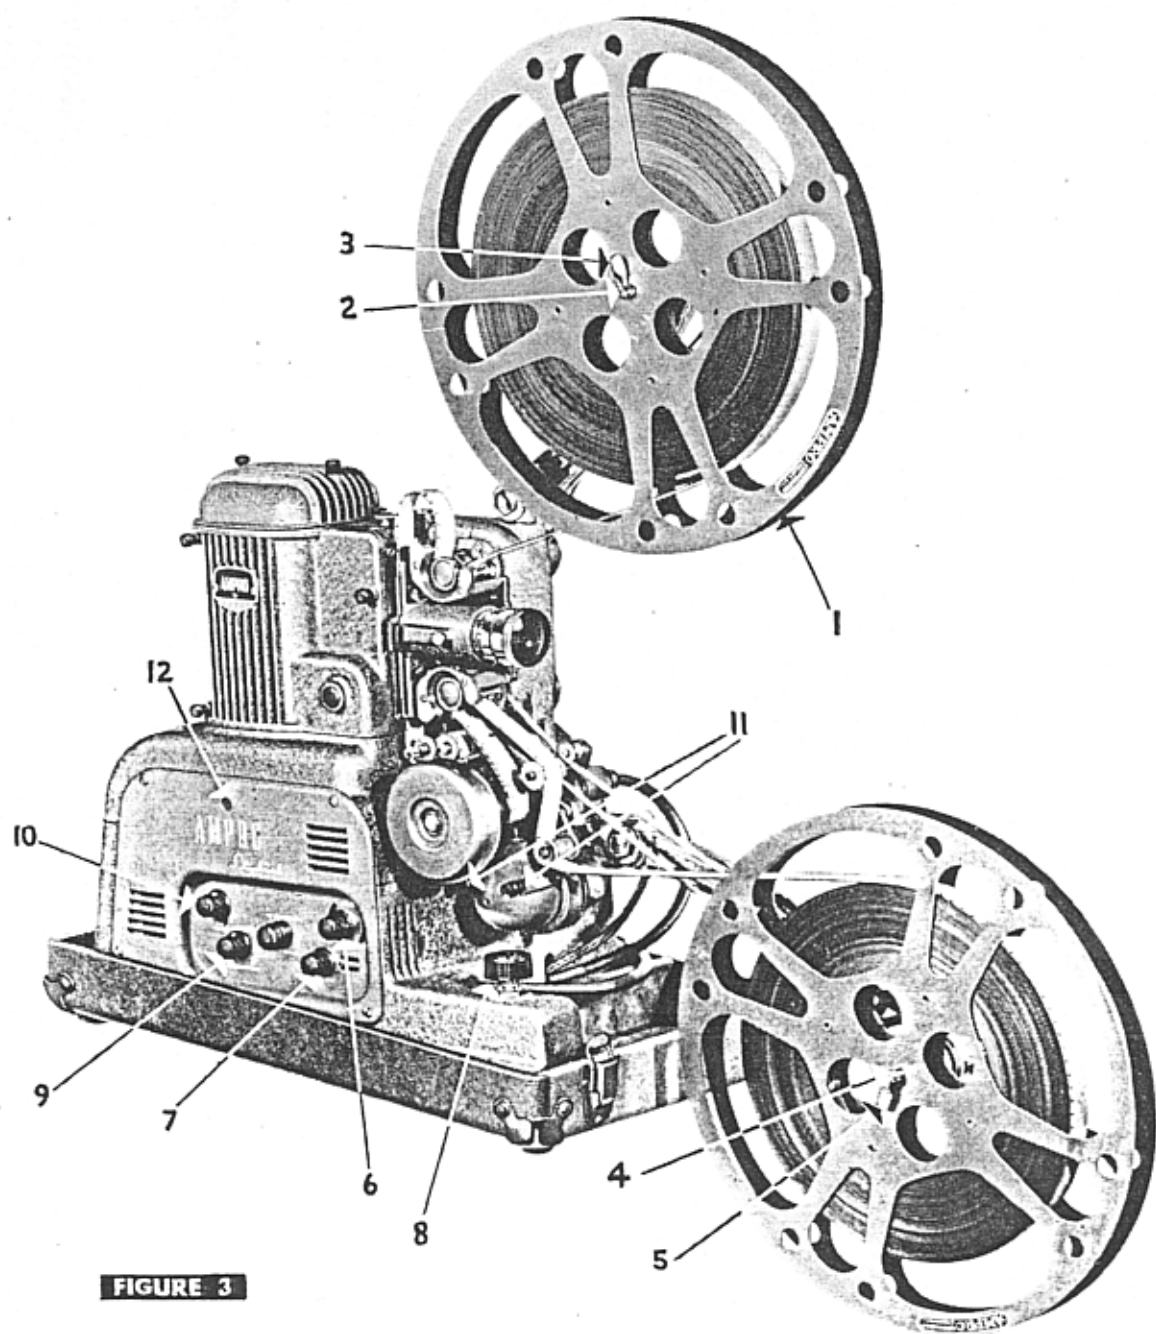

FIGURE 3
1. Place the reel of film which is to be projected (1 Fig. 3) on the feed spindle (2 Fig. 3) and fold over the reel lock finger (3 Fig. 3).
2. Place an empty reel of suitable capacity on the takeup spindle (4 Fig. 3) and fold over the reel lock finger (5 Fig. 3).
1. Turn the speed control knob (6 Fig. 3) as far as it will go in the direction marked "Sound."
2. Turn the motor control knob (7 Fig. 3) to the position marked "Motor." If the film feeds through the projector properly turn the knob to the position marked "Lamp," if not, turn the knob back to the "Off" position and re-check the threading.
5. If the picture is too high or too low, rotate the tilt knob (8 Fig. 3) to position it on the screen.
6. If silent film is being projected, turn the speed control knob (6 Fig. 3) toward the "Silent" position until proper rate of screen action is obtained.
7. If sound film is being projected turn the Volume Control (9 Fig. 3) clockwise until the proper volume level is established, then adjust the "Tone Control" (10 Fig. 3) to obtain satisfactory reproduction of sound.
8. When "The End" trailer appears on the screen turn the motor control switch (7 Fig. 3) to the "Motor" position and turn down the volume. When all of the film has passed through the projector turn the control switch to the "Off" position.
2. Turn the control switch (7 Fig. 3) to the "Motor" position.
- a. **Projection Lamp**—Remove the two cover screws (6) and lift off the lamp house top (7). Press downward on the lamp and turn it 90 degrees counterclockwise; this will release the lamp so that it may be removed from the lamp house. To replace the lamp reverse the procedure. Note: One of the flanges on the lamp base is wider than the other—line up the flanges with the corresponding slots in the lamp socket when replacing the lamp.
- b. **Exciter Lamp**—Remove the two cover screws (11 Fig. 3) and the exciter lamp cover—rotate the lamp to release it from the socket. Note: The slots in the exciter lamp base are not equally spaced—when replacing the lamp be sure to position the base so that the three slots line up with the pins in the socket.